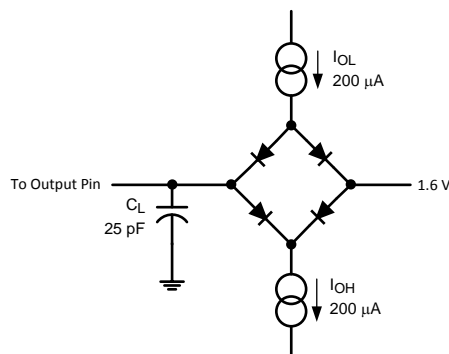

Figure 2. Timing Test Circuit
- (1) Measured with the timing test circuit shown in Figure 2 and defined as the time taken by the output signal to cross 1.0V.
(2) Measured with the timing test circuit shown in Figure 2 and defined as the time taken by the output signal to cross 1.0V or 2.0V.
(3)  $t_{DIS}$  is derived from the time taken by the outputs to change by 0.5V with the timing test circuit shown in Figure 2. The measured number is then adjusted to remove the effects of charging or discharging the output capacitance. This means that  $t_{DIS}$  is the true bus relinquish time, independent of the bus loading.